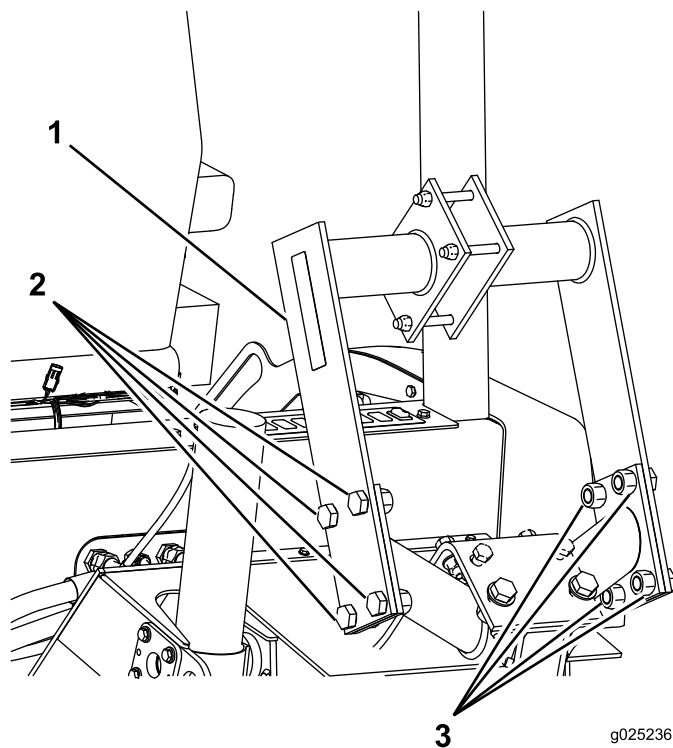

Figure 1
4. If the space between the mounting plates is too narrow to insert the crumber bar between them, loosen the 4 bolts and the 4 locknuts that secure the crumber mounting brackets to the boom enough so that you can insert the crumber bar between them (Figure 1).